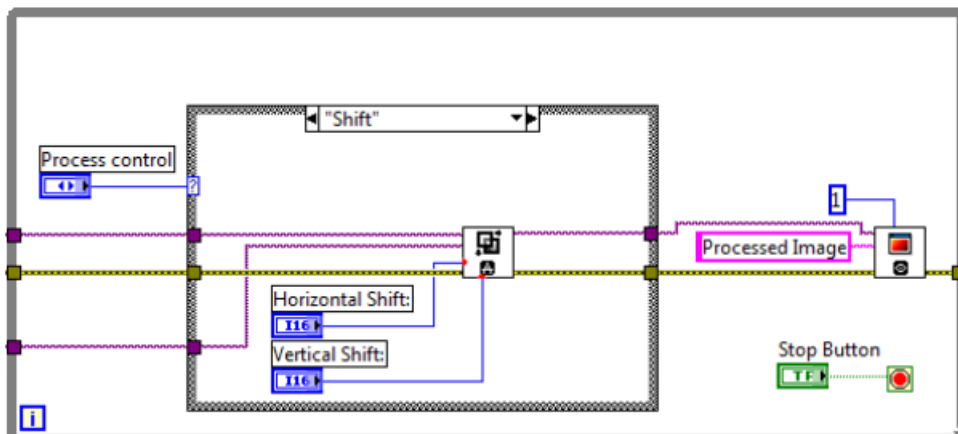

Figure 18: Wiring for Shift Case
16. From **Function>>Vision and Motion>>Vision Utilities>>Image Manipulation**, place a **IMAQ Shift** in the **Shift Case**. Wire the rest of **Shift Case** as shown in Figure 18.